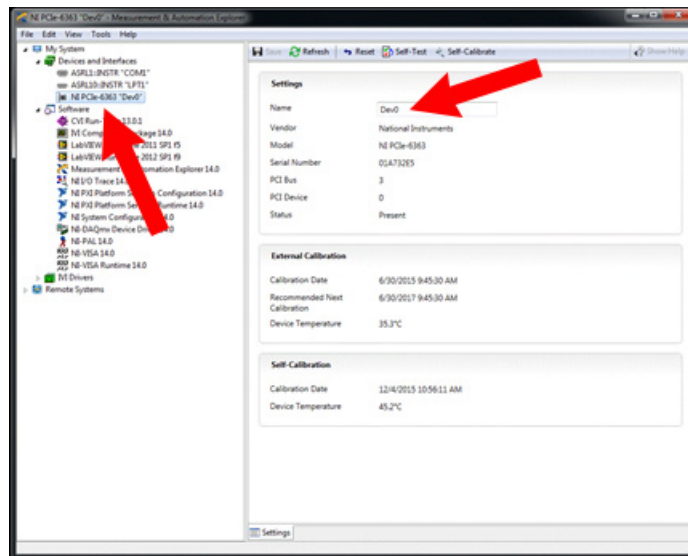

Figure 4-7: Device Name in NI MAX Software
2. A series of settings will appear on the right side of the application. Verify that the PCIe-6363 is named *Dev0*, highlighted (see: Figure 4-7).